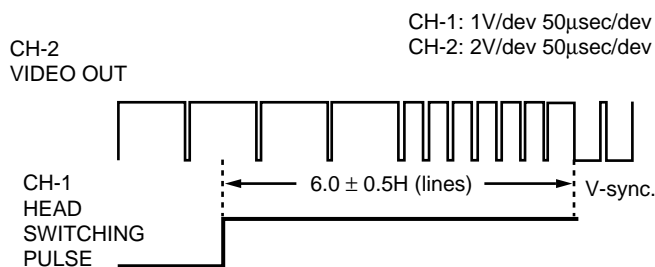

Figure 5-2.
4. Adjust R701 so that the leading edge of the head switching pulse is 6.0H (lines) ahead of the vertical sync as shown in Figure 5-2.